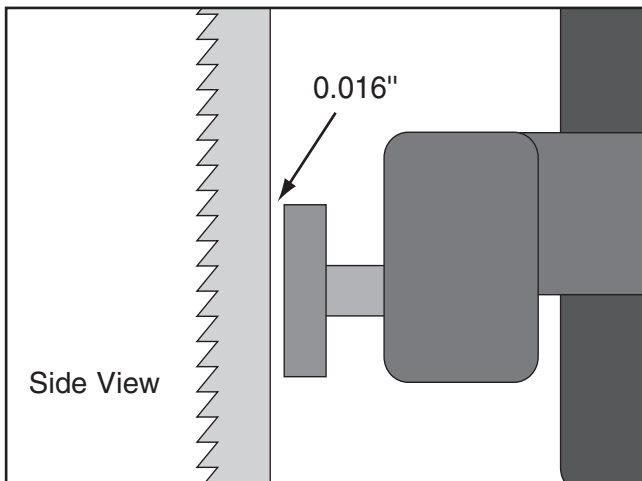

Figure 32. Blade should be aligned approximately 0.016" away from the bearing edge.
8. Place a 0.016" feeler gauge between the support bearing and the blade, and use the upper knurled knob to position the bearing 0.016" away from the back of the blade, as illustrated in **Figure 32**.